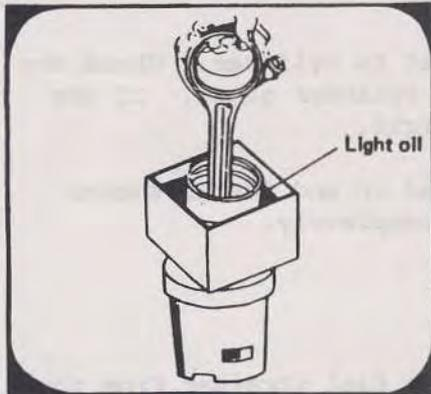

Fig. 14
- (2) The inserting part of piston pin shows tightness to a certain extent while the piston is at normal temperature, so the piston pin can simply be taken out in this manner: First, remove the circlip at both ends, dip the piston in light oil for about 10 minutes at around 80°C and warm up, and tap the pin softly over a wooden rod, as shown in Fig. 14 and 15.